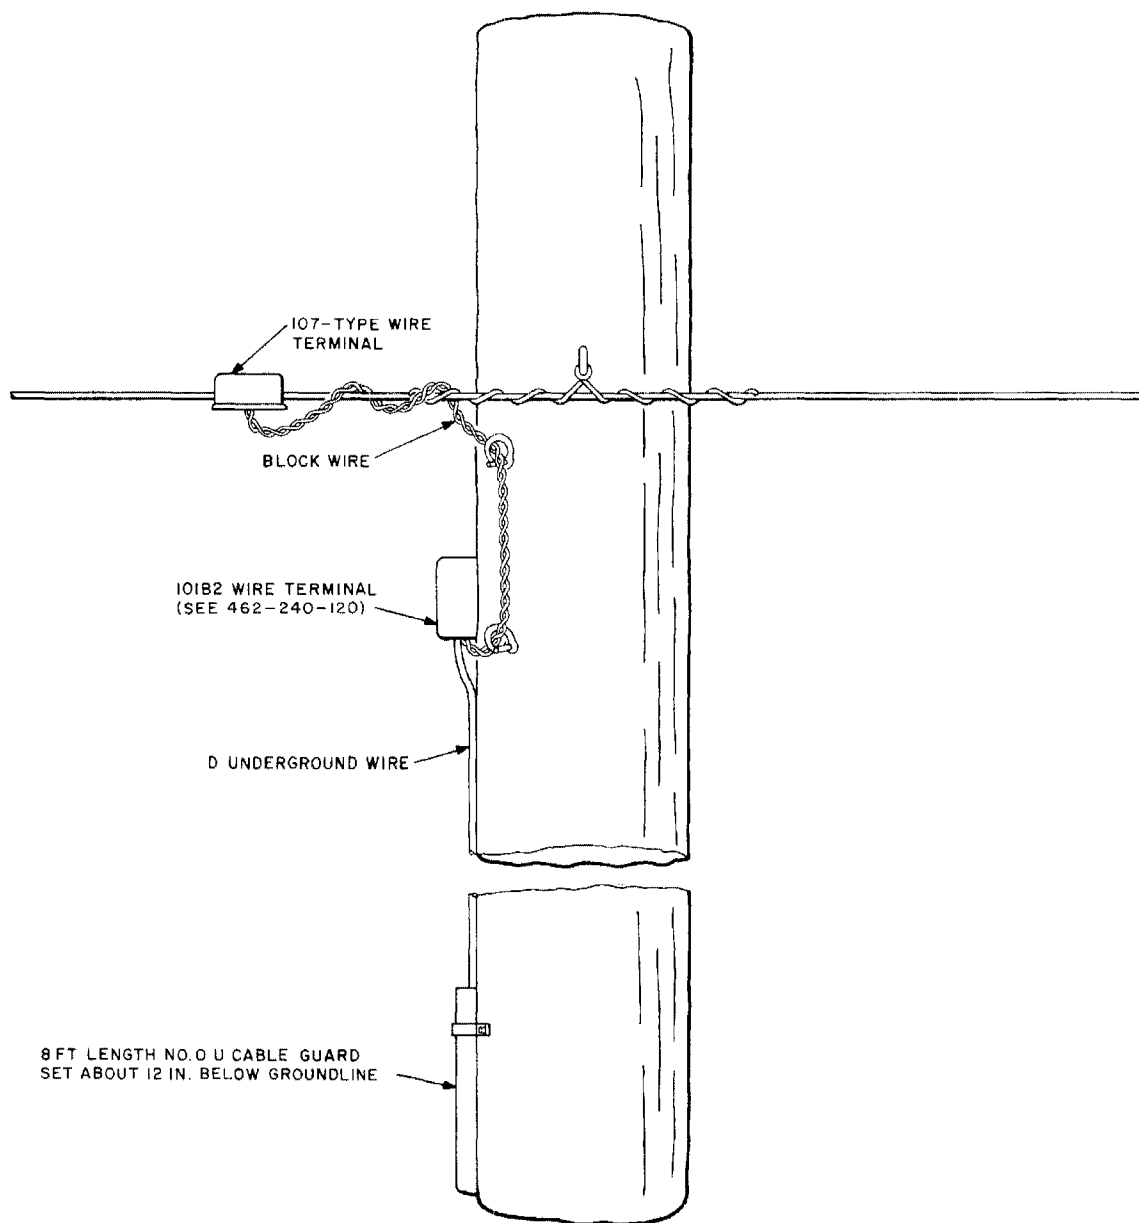

Fig. 7—Termination of Underground Wire and Rural Wire
4.02 At the junction with C Rural Wire, D Underground Wire can be brought up a pole and terminated in a 101B2 Wire Terminal. At the groundline the D Underground Wire should be covered with an 8-foot length of No. 0 U Cable Guard. The armor wire should be cut off as shown in Fig. 3. Block wire should be used to bridle between the 101B2 Wire Terminal and the 107-type wire terminal on the C Rural Wire. A typical installation is shown in Fig. 7.